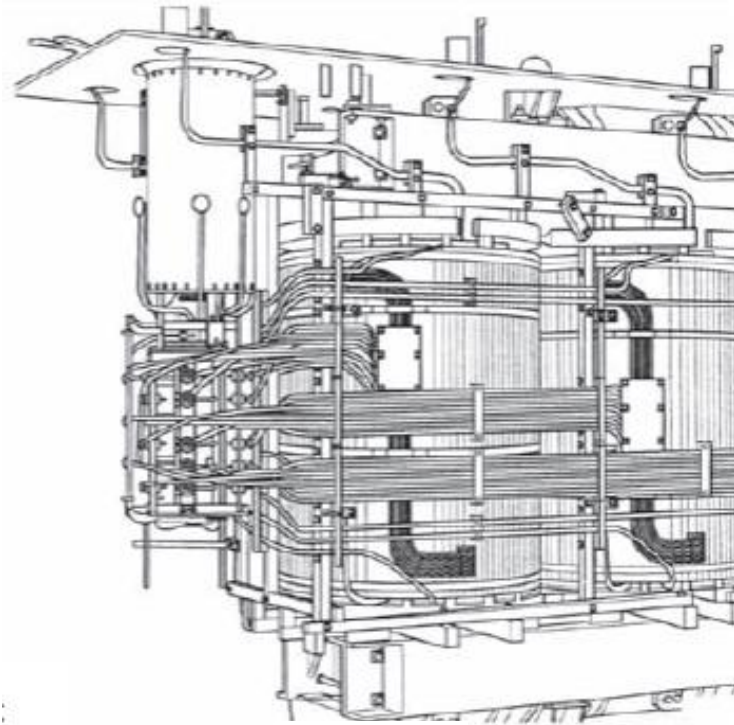

Figure 13
4.1 Installation of on-load tap-changer in box top transformer (Fig 13)